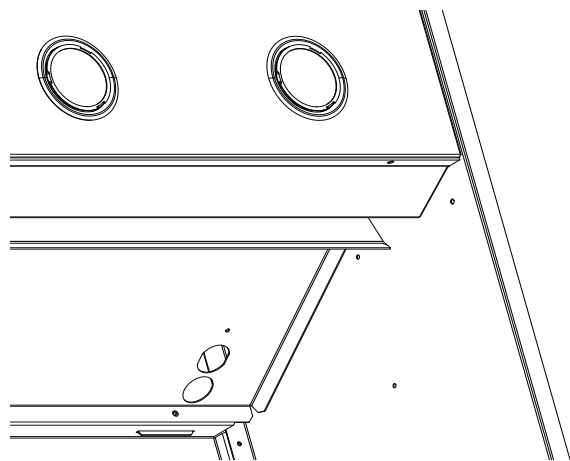

Figure 4: Wire Routing through Partition
- b) Run harness through core partition hole (*Figure 4*).